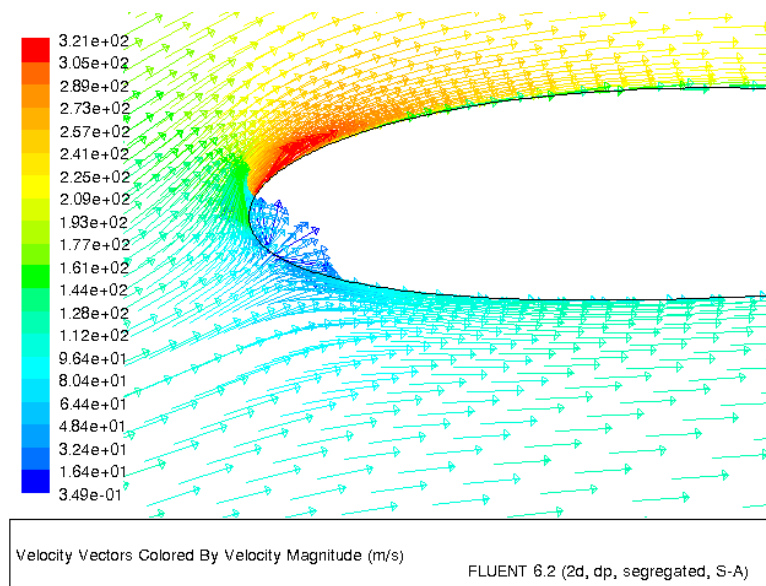

Figure 5.10: Velocity Vectors
2. Display velocity vectors (Figure 5.10).